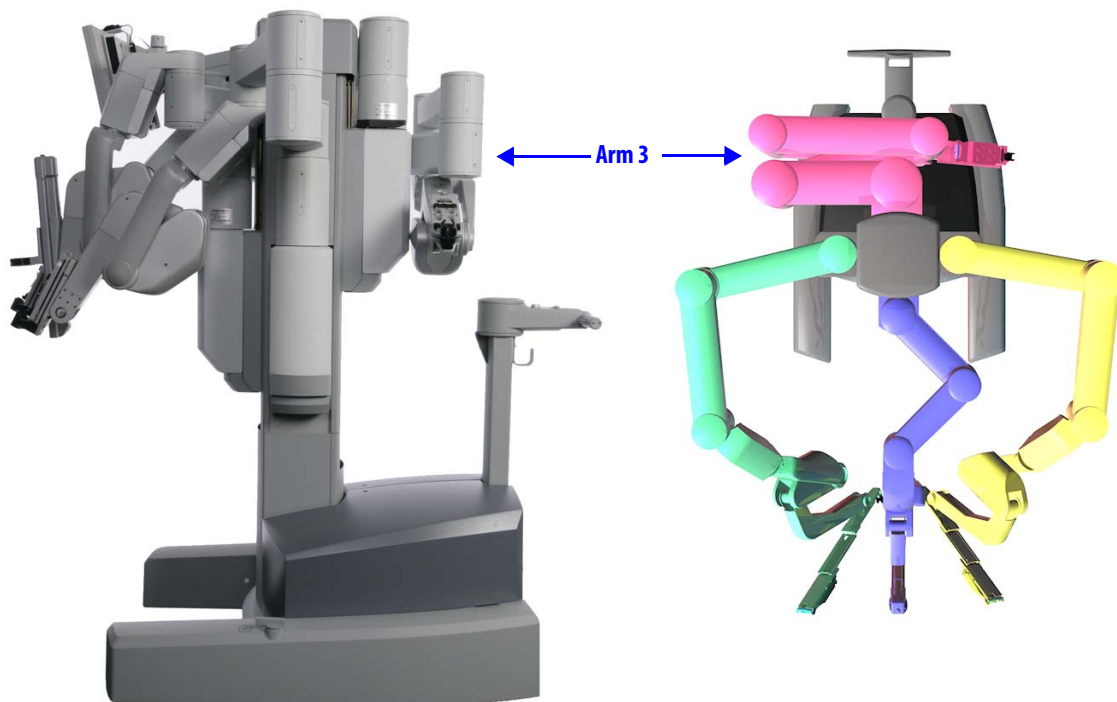

Figure 5.7 Instrument arm 3 in position to be stowed
3. Move the insertion axis to its fully collapsed and pitched back position, making sure the instrument arm tucks under the bottom-most link (as shown in Figure 5.7). Move the setup joint links as close to the Patient Cart tower as possible.
4. Once instrument arm 3 is behind the Patient Cart tower (as shown in Figure 5.7), it can be stowed. Move the entire setup joint to the bottom of its vertical range of motion.